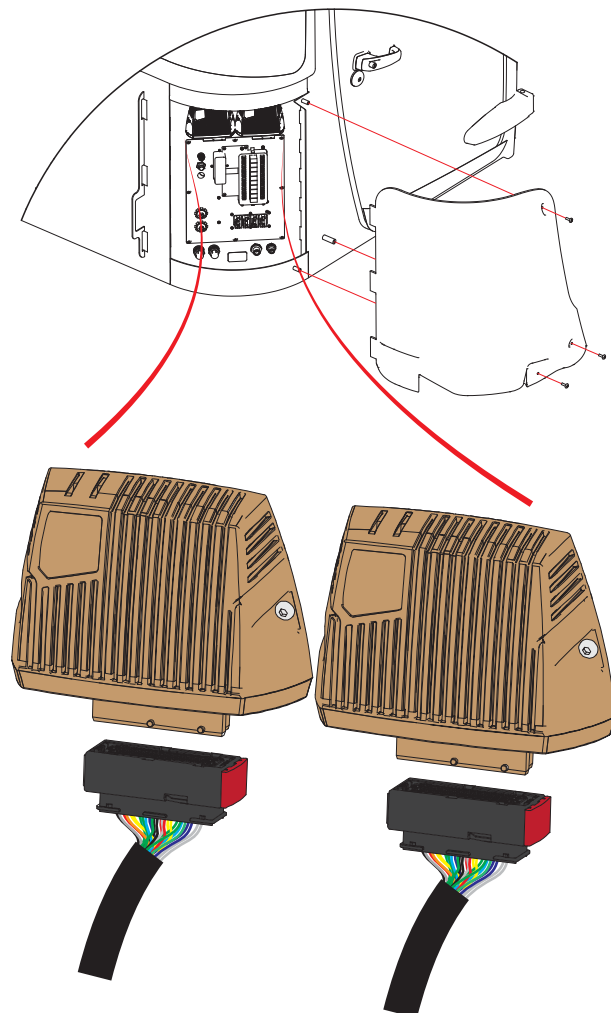

Figure 5-1-4 Controllers
- Disconnect controllers, located outside the cab. Remove the right rear quarter panel of the cab for access. (see Figure 5-1-4).